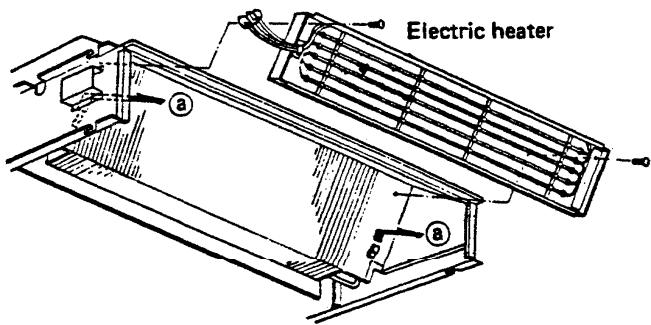

Fig. 18
2. Slide the heater upward once as the arrow ③ shows in Fig. 18.